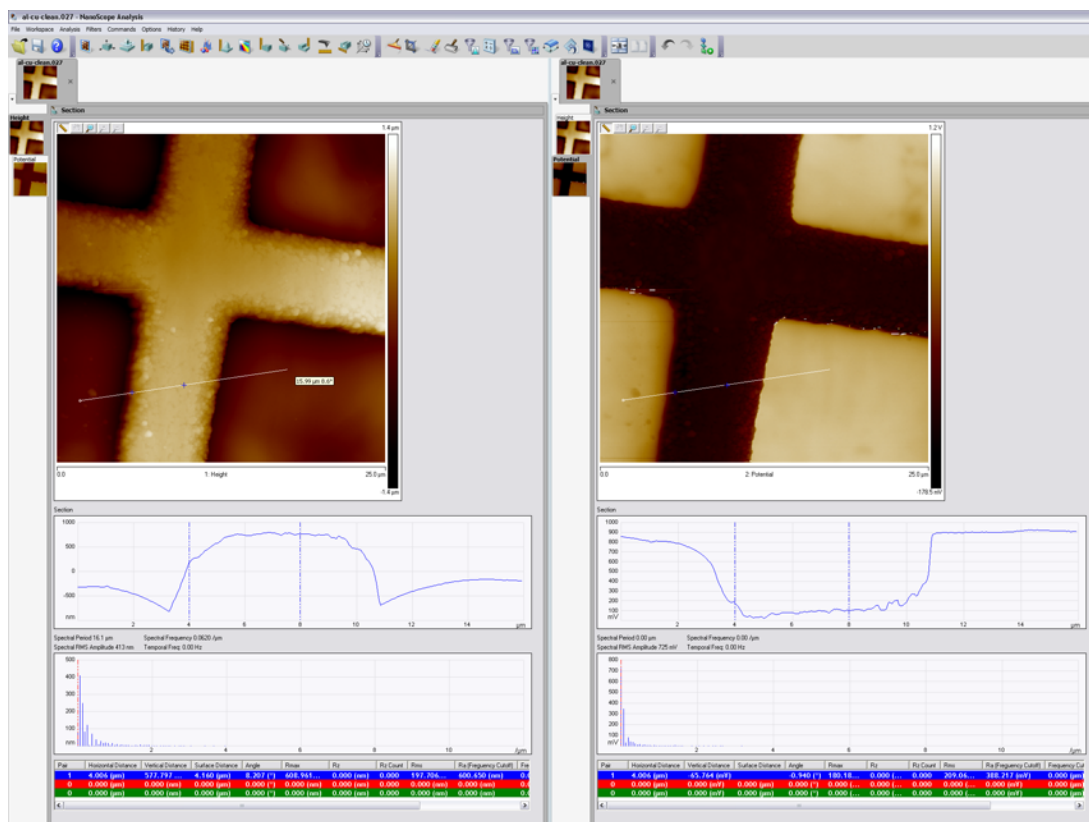

Figure 4.10d: Section results in the Height and Potential channels
7. The results, shown in Figure 4.10d, will appear in both windows.